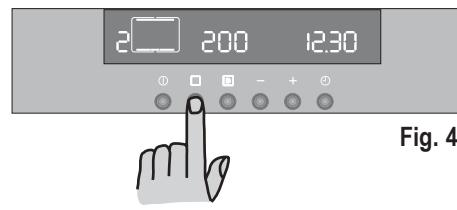

Fig. 4
- 2) press button  twice and select the "Conventional Cooking" function  (Fig. 4).